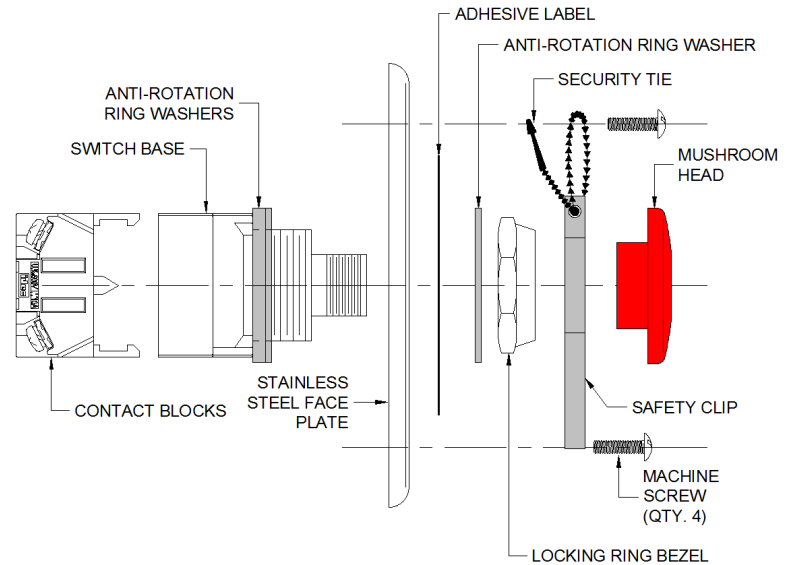

Figure 3 Manual Release Switch Assembly
See Figure 3 for switch assembly diagram.
6. Install the safety clip onto manual release switch between mushroom head and locking ring bezel, as shown in Figure 3.